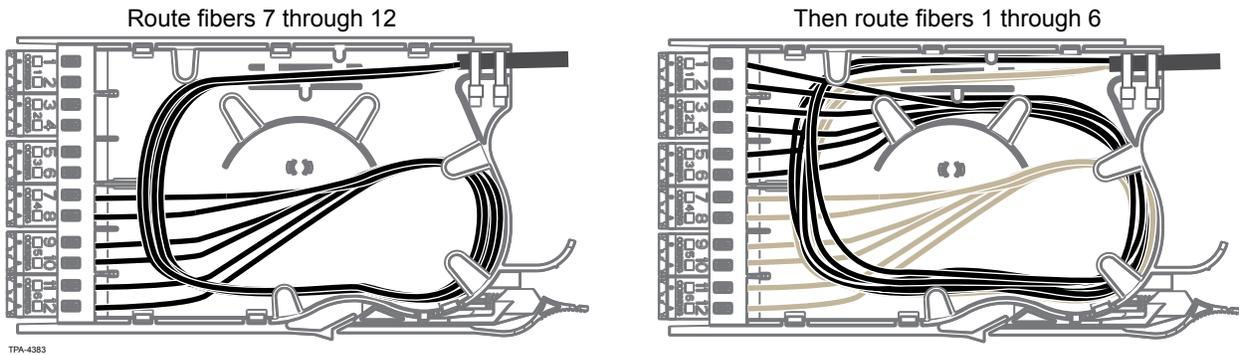

Figure 7
Step 6: Beginning with adapter 12, mate six connectors into adapters 7 through 12 and route the fibers as shown in Figure 7.